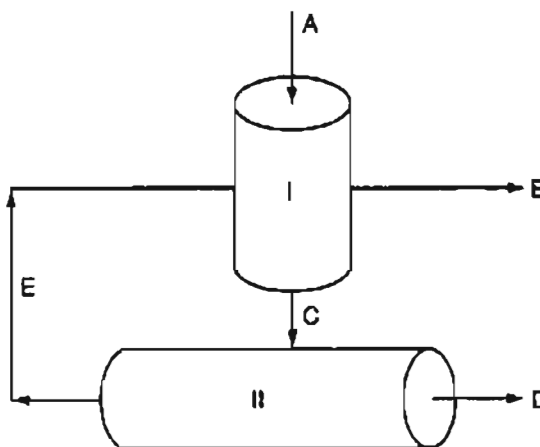

Figure P12.4
*12.4 In the process shown in the Figure P12.4 Unit I is a liquid-liquid solvent extractor and Unit II is the solvent recovery system. For the purposes of designing the size of the pipes for stream C and D, the designer obtained from the given data values of $C = 9,630$ lb/hr and $D = 1,510$ lb/hr. Are these values correct? Be sure to show all details of your calculations or explain if you do not use calculations.